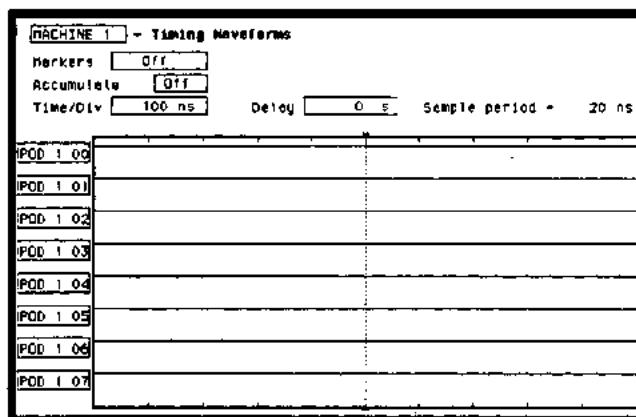

Figure 3-39. Threshold Accuracy Timing Waveforms 1
6. Press RUN. Data displayed on the **Timing Waveforms** display is all high for the pod and channels under test as in figure 3-39.
11. Press RUN. Data displayed on **Timing Waveforms** display is all high for the pod and channels under test as in the previous figure 3-39.
16. Press RUN. Data displayed on **Timing Waveforms** display is all high for the pod and channels under test as in the previous figure 3-39.